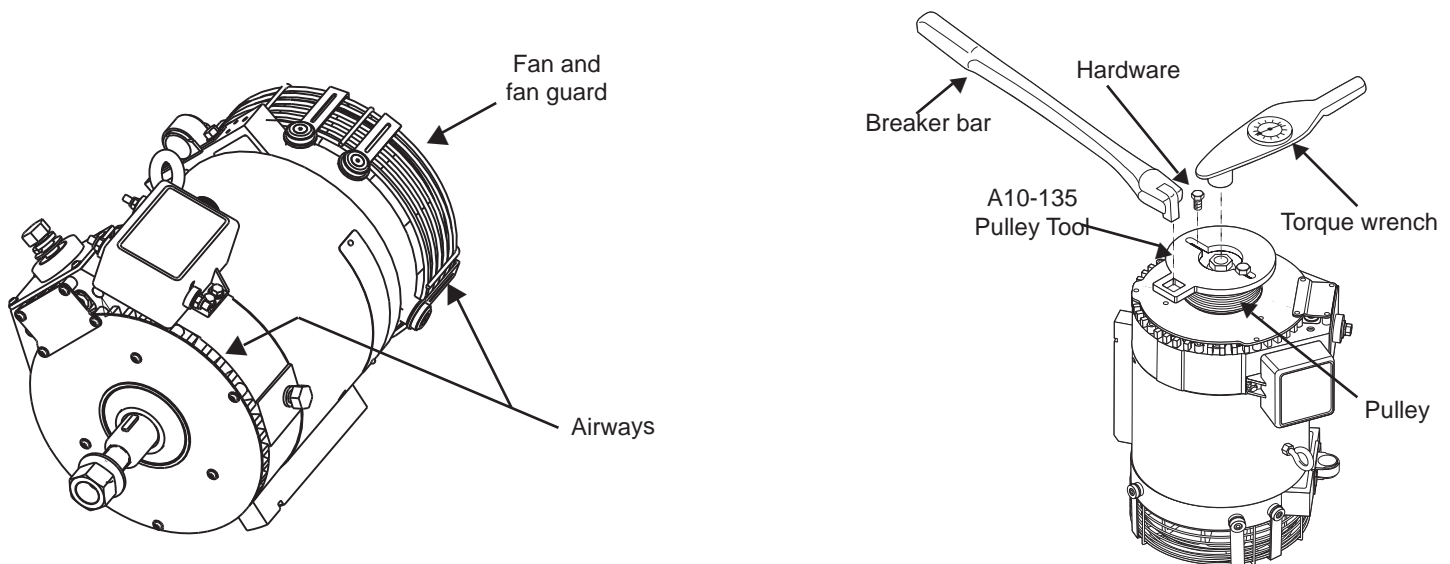

Figure 1 C703 Alternator
3. Is alternator pulley nut tightened to 120 lb. ft. torque? Use CEN A10-135 Pulley Tool to check torque. See Figure 1.